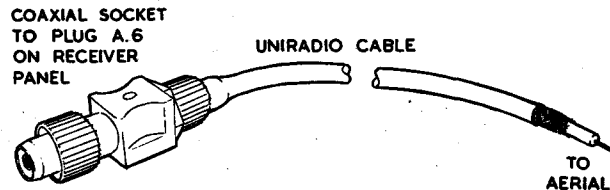

FIG.10 - AERIAL CONNECTOR
- (8) Check that the aerial connector is suitable for the installation. This connector is illustrated in fig.10. The aerial end of this connector may be provided with different types of termination to suit different aerial arrangements.
- (9) If the station is installed in a vehicle ensure that the carriers for the receiver and supply unit are earthed. Copper braid earthing strips connect the set carriers to the vehicle chassis.